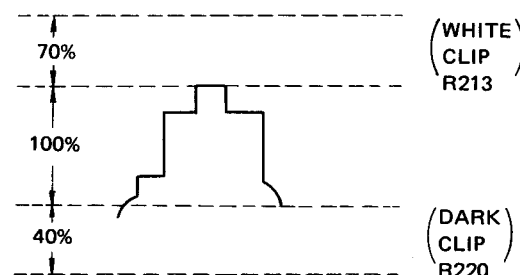

Figure 101.
1. Put the unit in RECORD mode, and apply +B voltage to pin ⑬ of I201.
3. Observe the output of TP-202 on oscilloscope, and adjust R213 (white clip control) and R220 (dark clip control) so that the respective waveforms will be as shown. (Fig. 101)
4. Stop to apply +B voltage to pin ⑬ of I201.